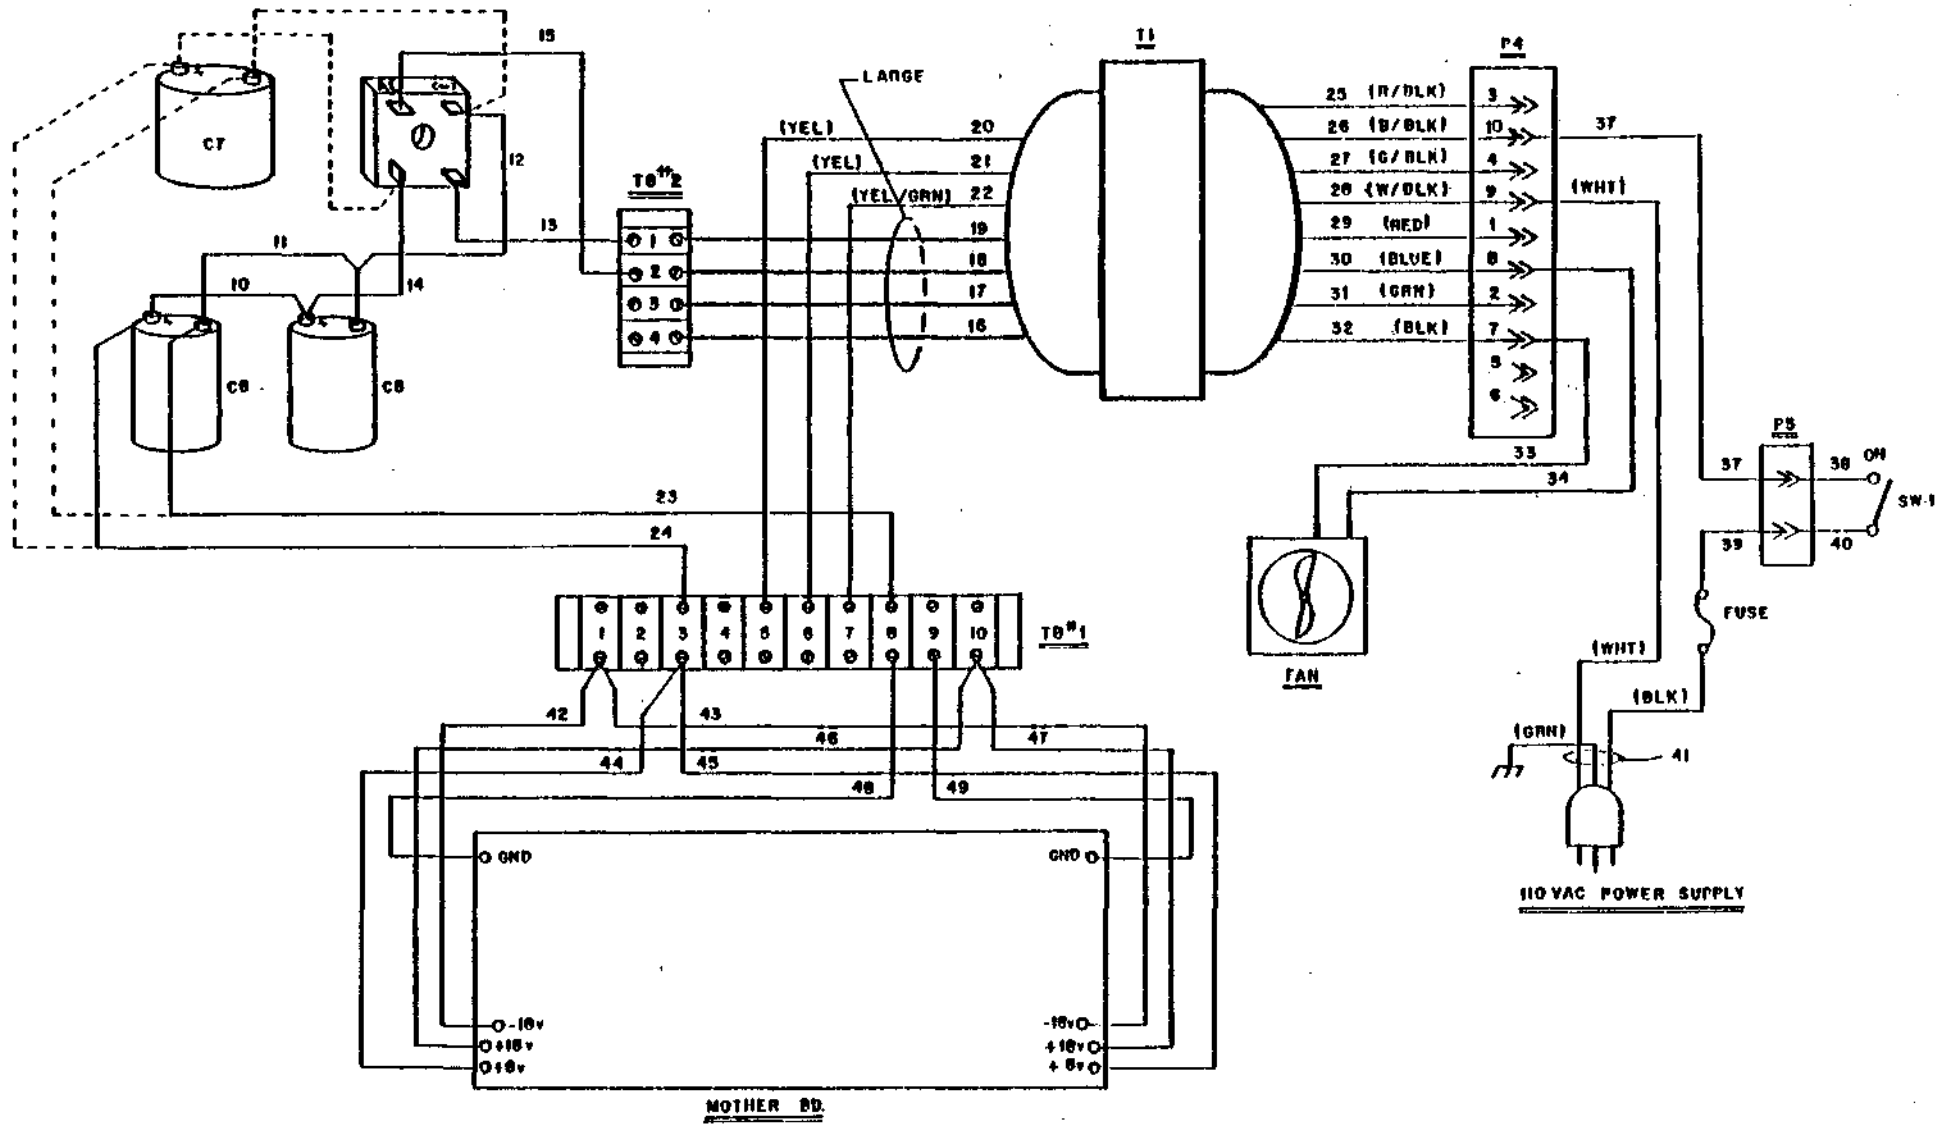
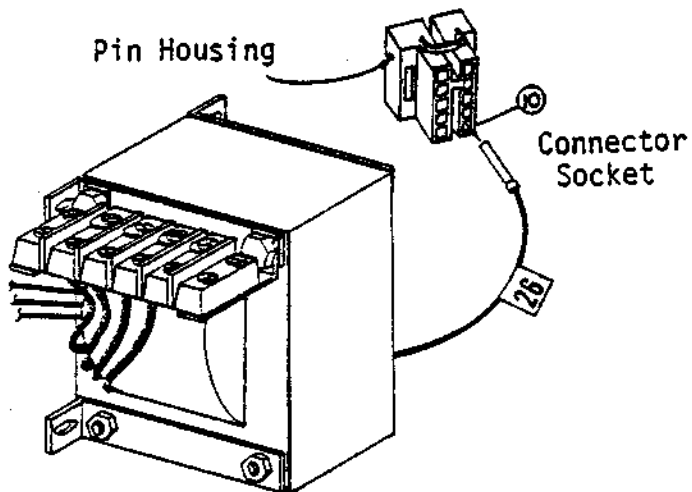

Figure 5-50. Wiring Diagram
Figure 5-58. Pin Housing Insertion
5-59. CAPACITOR WIRING (Figure 5-50)
3. Connect the wire from the "+" side of the capacitor to terminal #3 on the power supply board terminal block (TBI). (See wiring diagram, Figure 5-50.)
4. Connect the wire from the ground (-) side of the capacitor to terminal #8 of the terminal block (TBI). (See wiring diagram, Figure 5-50.)
4. Connect the wire from the "+" side of C5 to terminal #3 on the terminal block (TBI). (See wiring diagram, Figure 5-50.)
5. Connect the wire from the ground side of C5 to terminal #8 of the terminal block (TBI). (See wiring diagram, Figure 5-50.)
2. When all eight wires on the primary side of the transformer have pins attached, insert the pin housing (P4) as shown in Figure 5-58. Insert the pins in the following order (see wiring diagram, Figure 5-50):
2. Attach wires 13 and 15 from the bridge rectifier to terminals 1 and 2 of the terminal block (TB2). (See Wiring Diagram, Figure 5-50.)
2. Make sure the two 19-inch bridge rectifier wires, the 40-inch fuse wire (#39), and the 40-inch connector plug wire (#37) go under the fan as the back panel is mounted. Connect wire 14 from the bridge rectifier to the "+" side of the capacitor(s). Connect wire 12 from the bridge rectifier to the ground side of the capacitor(s). Make continuity checks (see wiring diagram, Figure 5-50).